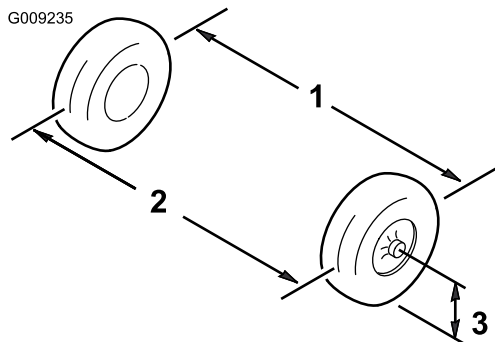

Figure 114
5. Measure the distance between both of the front tires at the axle height at both the front and rear of the front tires (Figure 114).